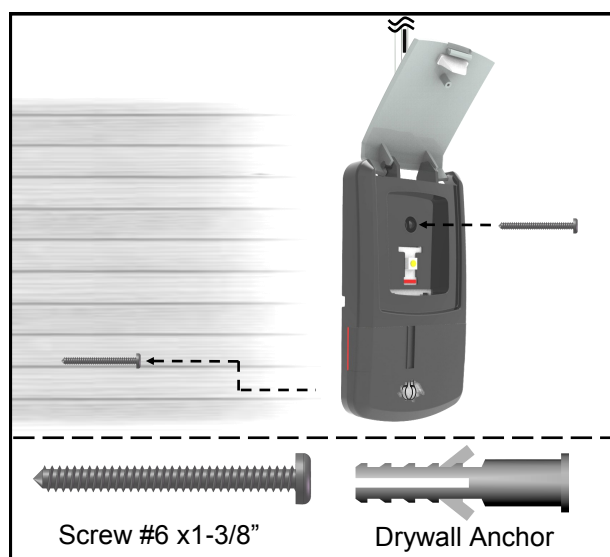

Fig. 2
6. See Fig. 2. Fasten the bottom screw to a solid surface with 1-3/8" screws. If attaching to drywall or other hollow surface, drill 3/16" holes and use the provided Drywall Anchors.